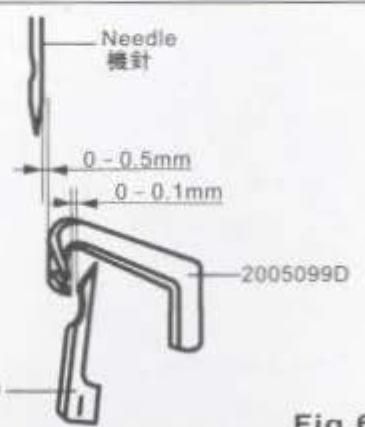

Fig.6
Turn pulley clockwise further, and you will see lower looper moves to the right while upper looper goes to the left. In this case, note that upper looper point passes the concave part of lower looper (on the far side), as shown in (Fig. 6). Check the clearance between the concave part of lower looper and upper looper point. The clearance should be 0 to 0.1mm.
- Confirm that the clearance between needle and upper looper is 0 to 0.5mm at the time when needle moves downwards and passes behind upper looper (2005099D), while turning pulley clockwise (Fig. 6)